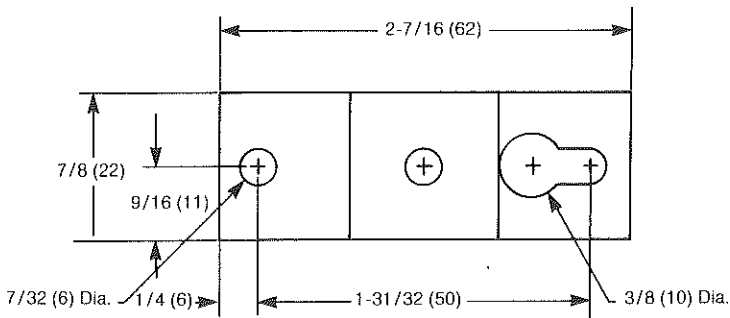

Figure 4. Mounting Bracket Dimensions
Dimensions: See Figures 4 and 5.
2. Drill mounting holes in subpanel per dimensions shown in Figure 4 or use mounting plate as a template.
3. Secure mounting plate with field supplied screws or use two (2) push-in fasteners provided if metal perforated subpanel is used.